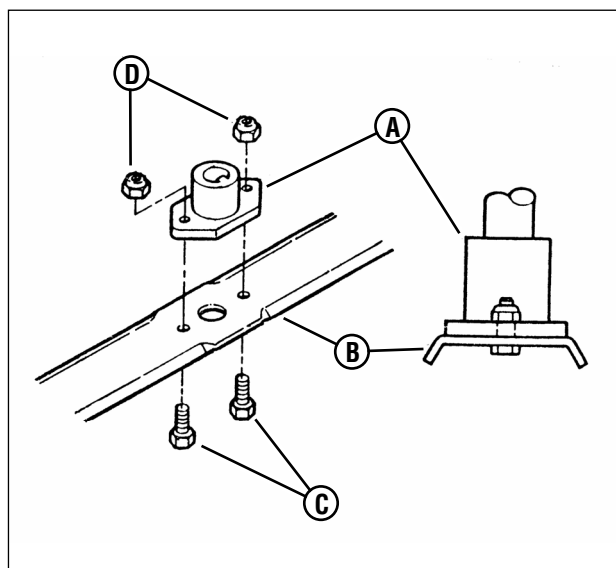

Figure 12: Removing the mower blade
3. Remove the blade (**B, Figure 12**).
- Reinstall blade (**B**, **Figure 12**). Note the correct assembly order: